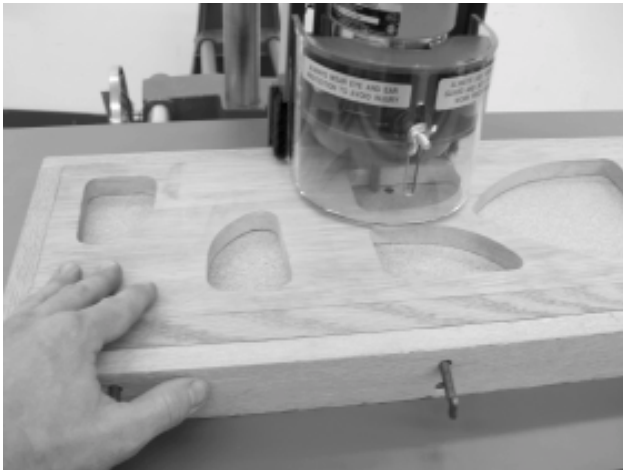

Figure 19. Routing with a clamp-in fixture.
Step 4: Drop the fixture groove over the Table Pin, turn on your router motor, plunge your rotating bit into the workpiece about 1/4" and start moving your fixture (with workpiece attached) in a counter-clockwise motion until you've completed your initial cut in the first groove (See Fig. 19).